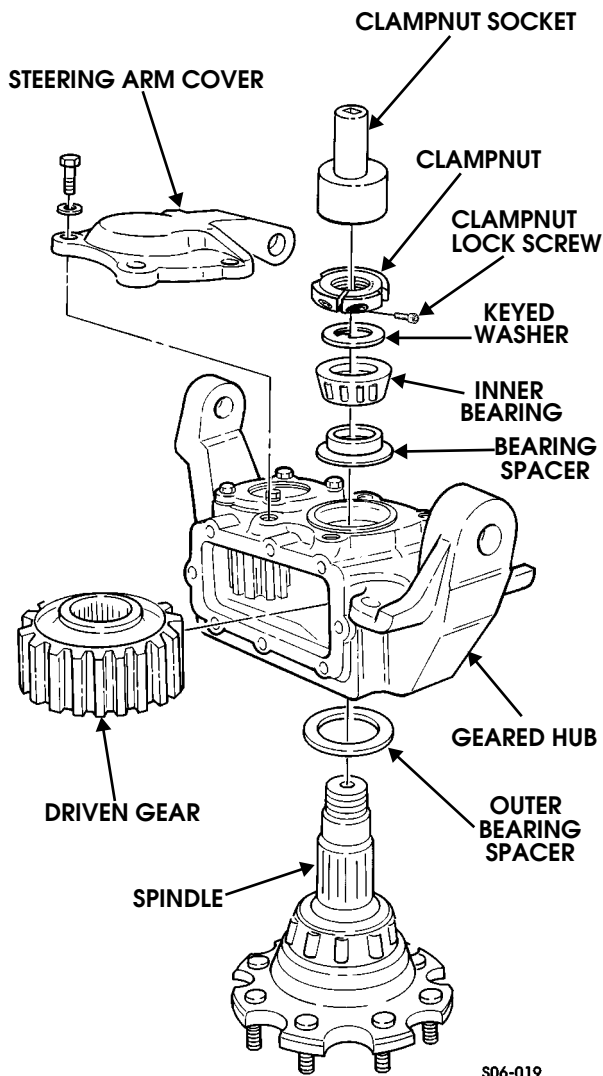

Figure 9-23: Geared Hub Breakdown
5. Remove four bolts, washers, and steering arm cover from geared hub (Figure 9-23).